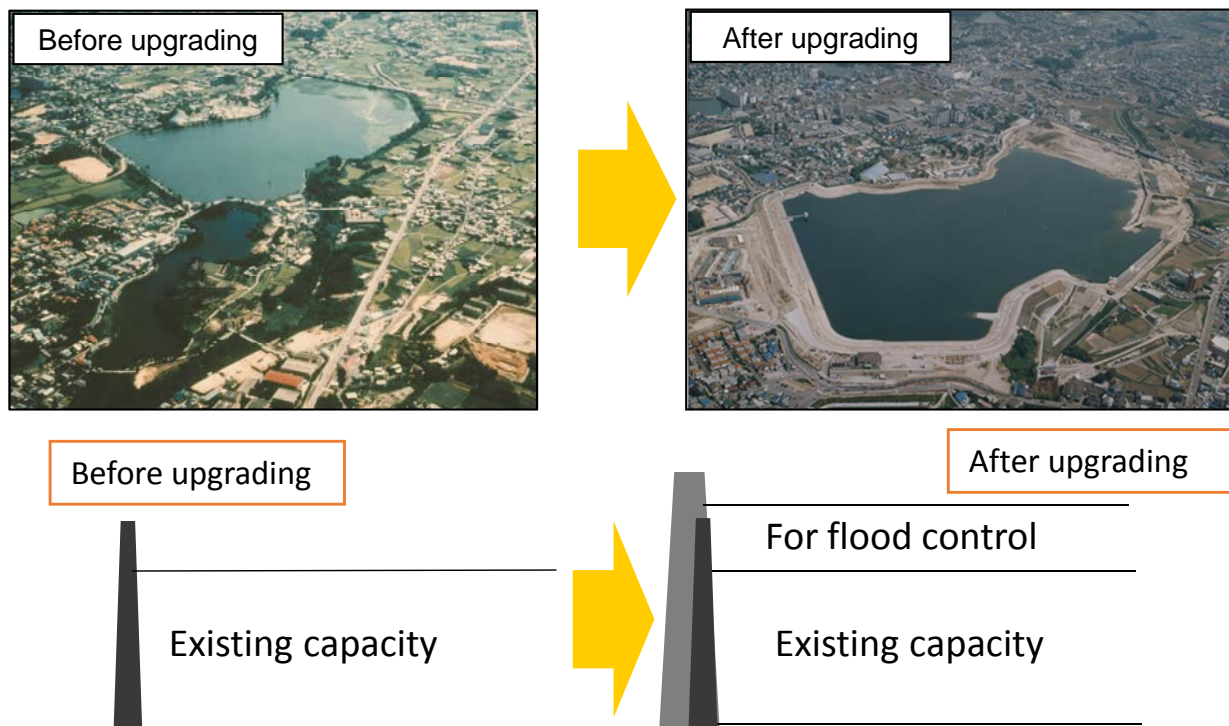

Fig.3-1 Sayamaike Dam (Oldest dam in Japan, more than 1,300 years old)
- Sayamaike Dam in Osaka Pref.(Fig.3-1)